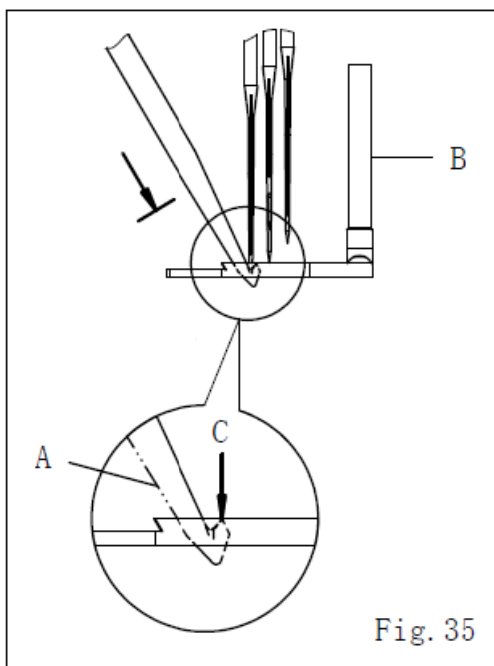
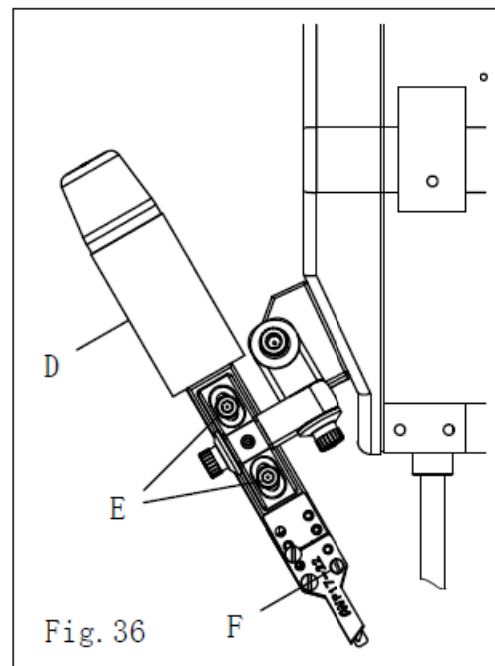

Fig. 35
Fig. 36
当活动刀片(A)移至最低点时活动刀之刀尖与上勾针(B)之上沿须切齐等高(C)。(图35)调整时放松上切刀组(D)上之两个螺丝(E),再上下移动上切刀组之位置。(图36)
上切刀组之活动刀与固定刀压力可由螺丝(F)旋转微调至适当压力。(图36)
When the Top Trimmer Moving Knife move to the lowest point, the tip (C) of Moving Knife align with top of Spreader (B). (Fig. 35)
To loose the two screws (E) of Top Trimmer (D) then, to adjust up and down for top trimmer position. (Fig. 36)
The pressure of Top Trimmer Moving & Fixing Knife which be adjusted via micro turn the screw (F) to get the suitable pressure. (Fig. 36)